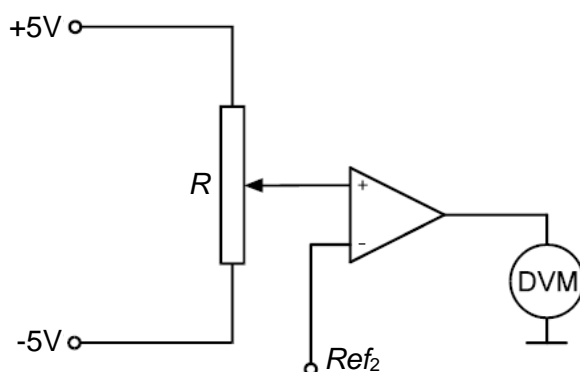

Figure B3. Linear potentiometer with differential amplifier
6. The circuit in Figure B3 shows the output from the potentiometer connected to the input (+) of a differential amplifier with an external reference voltage, Ref_2 , connected to the other input (-). The objective is to use the reference voltage to remove any offset in the output signal when the Linear Assembly is in the starting position.
7. Use the patching leads to connect the equipment as shown in Figure B3. With the amplifier gain set to unity, adjust Ref_2 to zero the meter reading at the starting position. Repeat the previous procedure to complete Table B1 (linear potentiometer with differential amplifier Figure B3).
- Use the patching leads to connect the equipment as shown in Figure B3 (use rotary potentiometer). Repeat the previous procedure to complete Table B2.